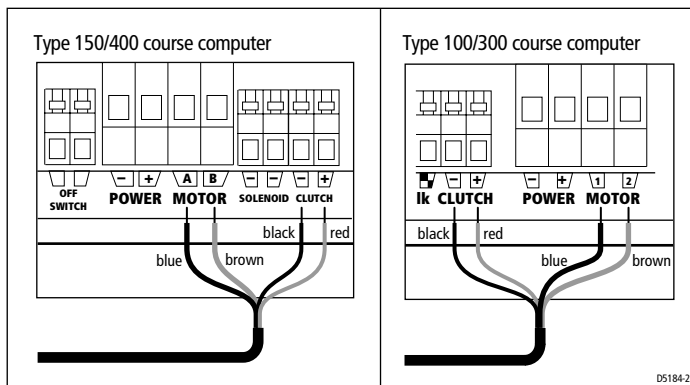

Figure 4: Connections at course computer
3. Connect the motor cables (thicker blue and brown cables) and the clutch cables (thinner red and black cables) to the connections on the course computer as shown in *Figure 4*.